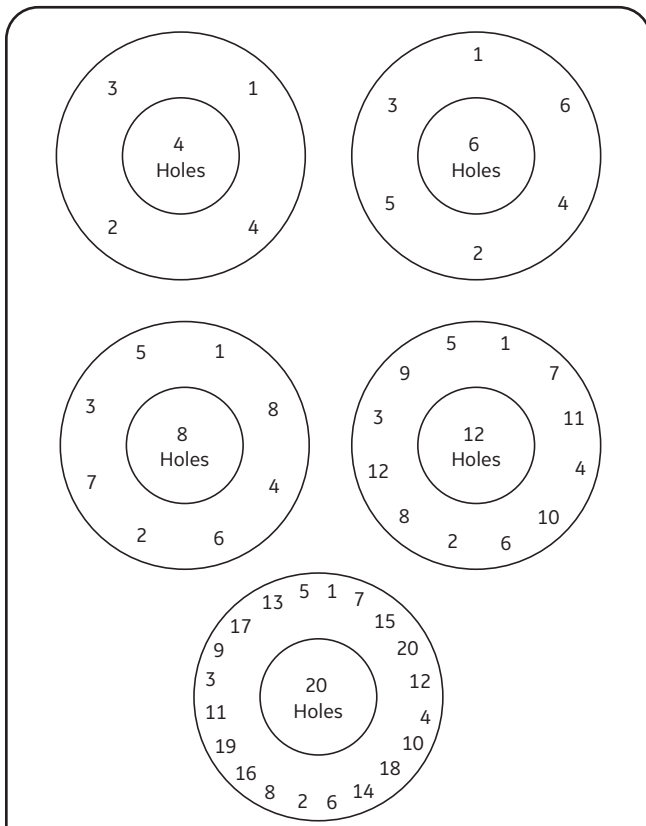

Figure 21: Bolt Tightening Patterns
7. Install Cover Plate on top of Base such that the pilot will be aligned for proper tubing connections. Make note of the length of the studs or Cap Screws. The two longer ones will straddle the vertical line of the inlet sensing port on the Main Base of the pilot valve. Install the bracket between the Cover Plate and the Nut or Cap Screw. Torque to the values shown in Table 9 in 15 ft-lb (20 N-m) increments making sure there is a uniform gap between the Base and the Cover Plate. Torque in the sequence shown in Figure 21. Be sure that the bracket is aligned so that the two smaller pilot attachment holes are above the horizontal plane of the Cover Plate.
- Install Cover Plate on top of Base such that the pilot will be aligned for proper tubing connections. Make note of the length of the studs or Cap Screws. The two longer ones will straddle the vertical line of the inlet sensing port on the Main Base of the pilot valve. Install the bracket between the Cover Plate and the Nut or Cap Screw. Torque to the values found in Table 9 using the torque patterns in Figure 21 and Table 10.